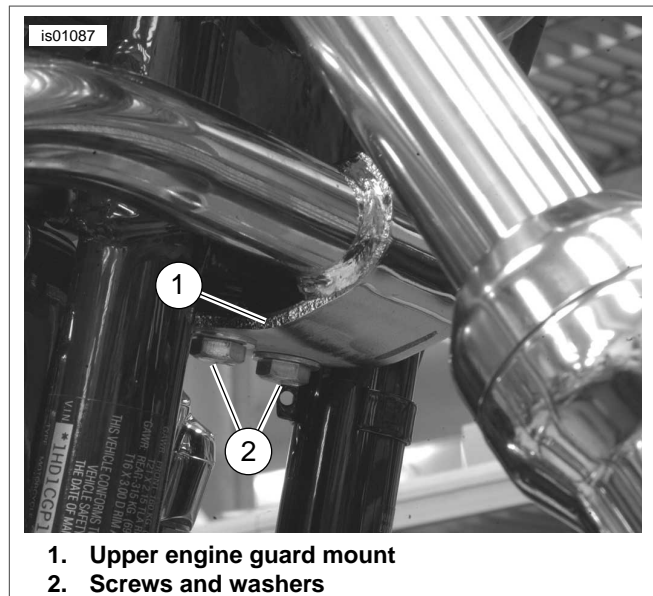

Figure 3. Mount Upper Section of Engine Guard
For Step 4, note that upper section of engine guard must be mounted between horn bracket and upper tie-link bracket. See Figure 3 noting that illustration does not show the horn mounting bracket.
4. Figure 3 illustrates mounting without horn bracket and horn in place. Place flat washers on screws. Obtain horn bracket with horn if present. While holding engine guard and horn bracket in place at upper crossmember, install screws with washers (2) through horn bracket, upper engine guard mount (1), tie-link mounting bracket and thread into holes in upper frame crossmember. Tighten just enough to hold the assembly snug and in place.